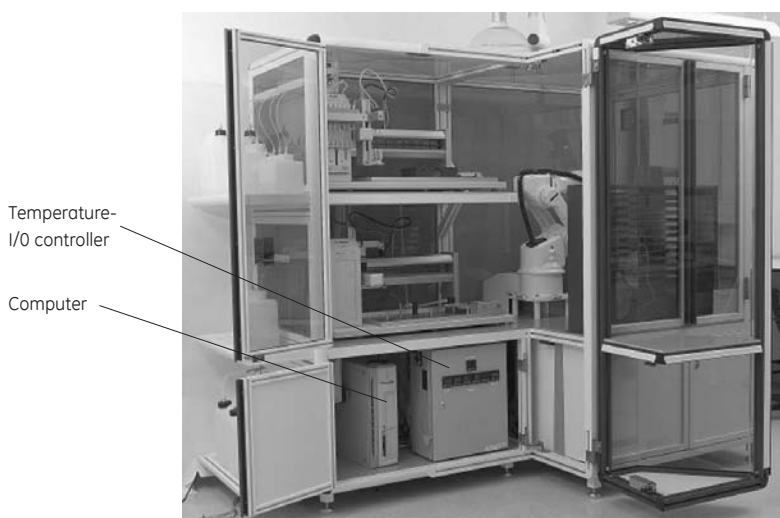

Fig 2-3. The cabinet's lower left compartment.
- 1 The left part contains (see Fig. 2-3):